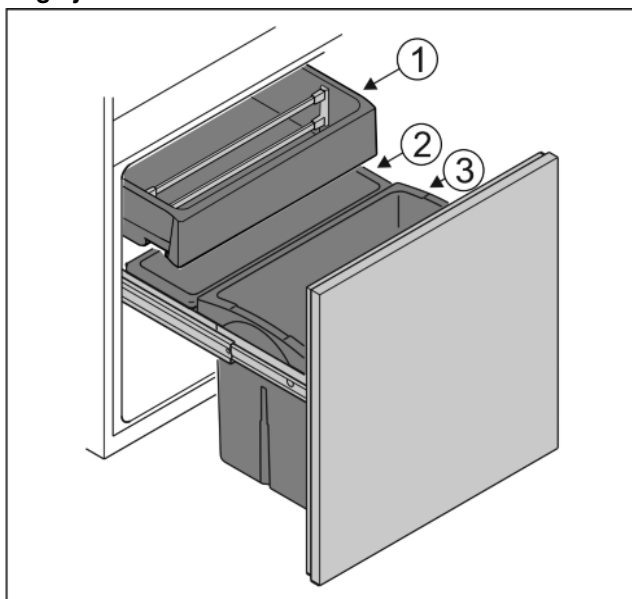

Fig. 4
- ▶ Containers Fig. 4 (1): Store loose vegetables and tropical fruit.
- ▶ Containers Fig. 4 (2): Store loose small fruit and vegetables.
- ▶ Containers Fig. 4 (3): Store individual bottles.